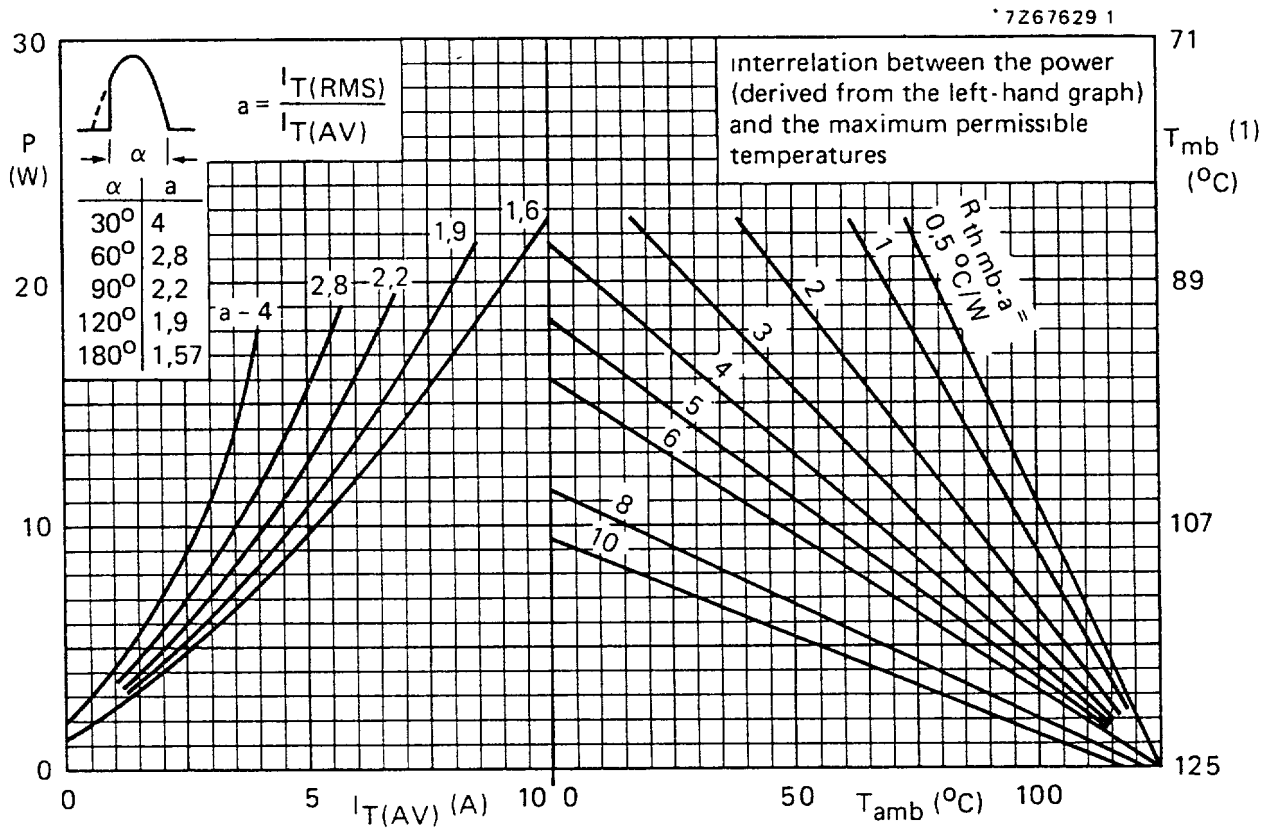

Fig. 3 (1) T_{mb} -scale is for comparison purposes only and is correct only for $R_{th\ mb-a} \leq 6\ ^\circ C/W$.
* To ensure thermal stability: $R_{th j-a} < 4$ °C/W (d.c. blocking) or < 8 °C/W (a.c.). For smaller heat-sinks $T_{j max}$ should be derated. For a.c. see Fig. 3.